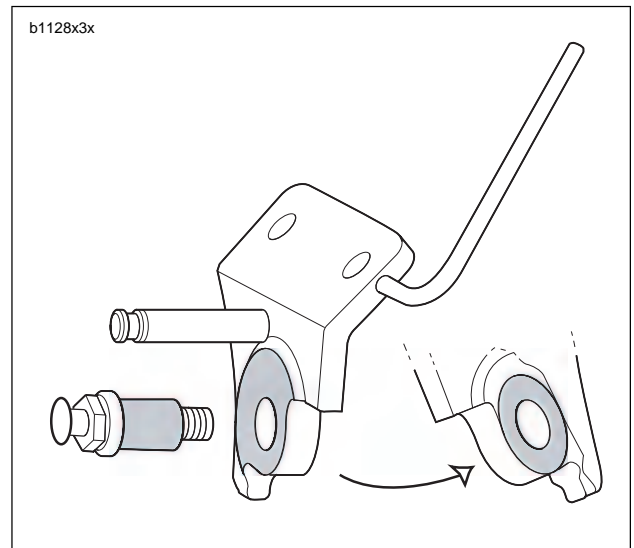

Figure 2-130. Lubricating Points (Shaded Areas)
1. Install sidestand leg (1).
- a. See Figure 2-130. Lubricate sidestand pivot bolt (5) and mating portions on sidestand bracket (2) with WHEEL BEARING GREASE (Part No. 99855-89) as shown in Figure 2-130.